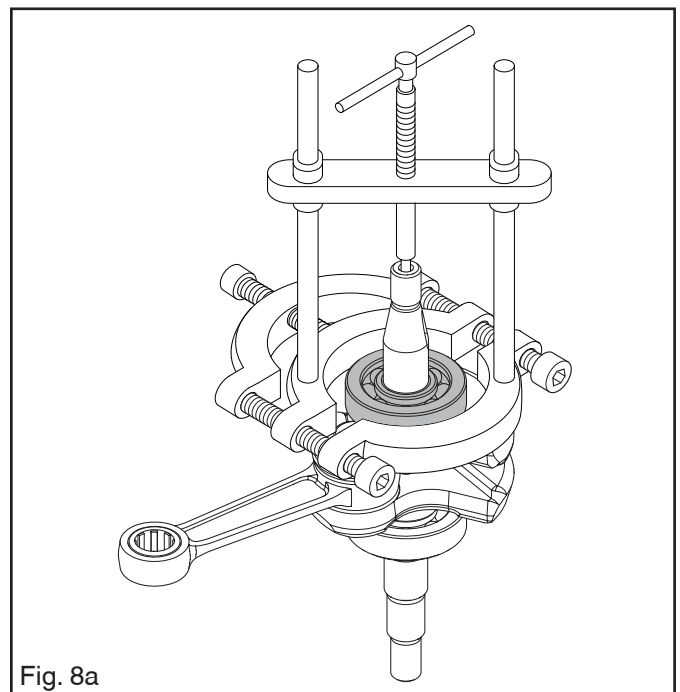

Fig. 8a
1. If the crankshaft bearing remains on the crankshaft, remove it with the Puller tool. See figure 8a.